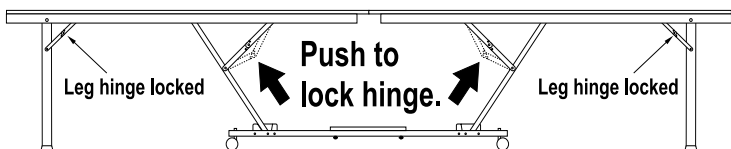

Figure 4
5. Lock all four center hinges. See Figure 4.